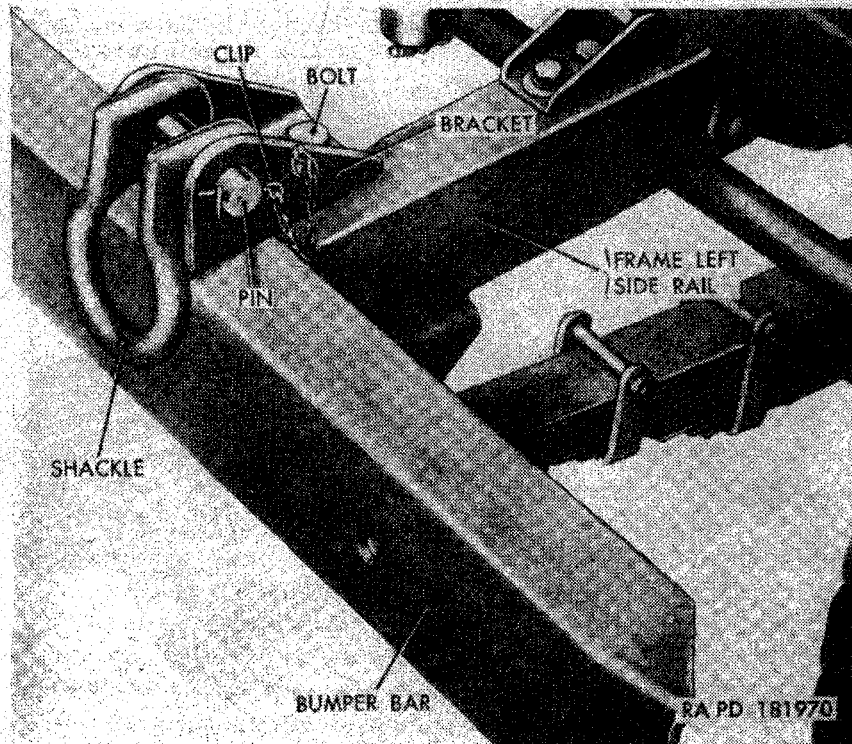

Figure 189. Front lifting shackle and bracket—installed.
a. Front Lifting Shackles and Brackets (fig. 189).